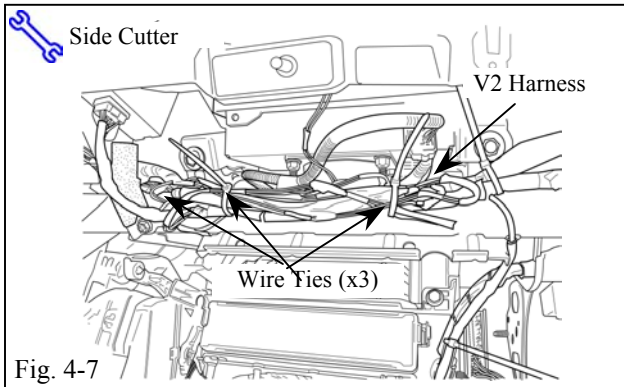

Fig. 4-7
- (h) Bundle up the excess of the V2 wire harness and secure it to the vehicle brace with three wire ties. (Fig. 4-7)